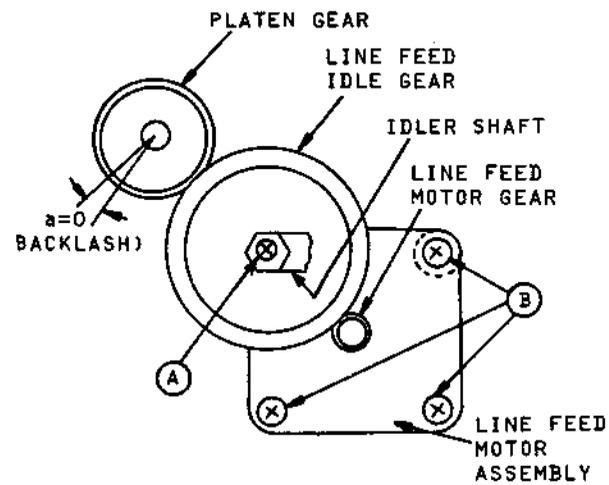

Figure 5-10 Platen Gear Adjustment
- a. Refer to Figure 5-10. Remove the platen assembly.